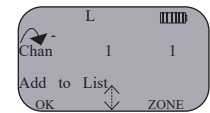

Figure 5
- Scroll to "Add to List", "1st Priority" or "2nd Priority" and press the "OK" softkey. (See Figure 5)